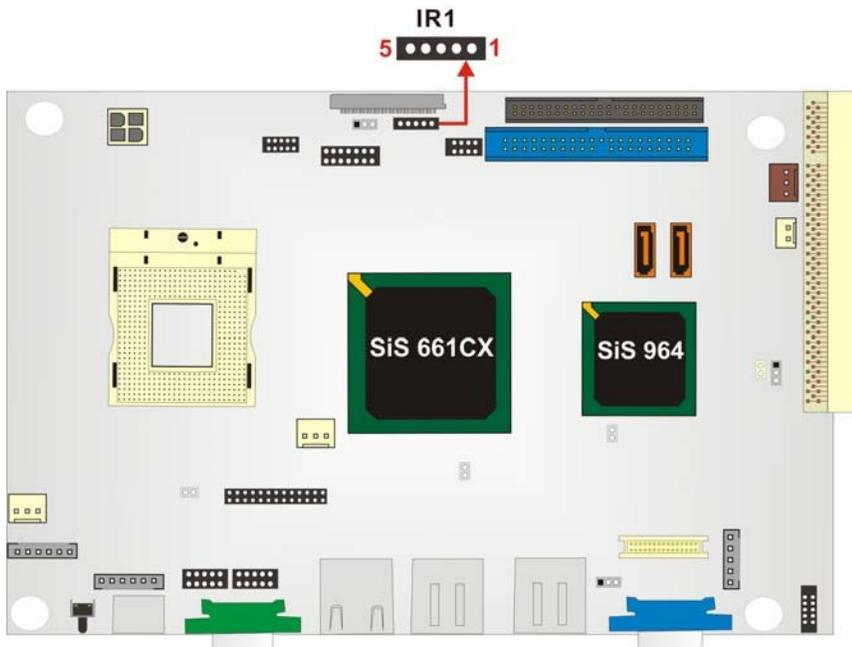

Figure 3-14: IR Connector Location
- CN Location:** See Figure 3-14